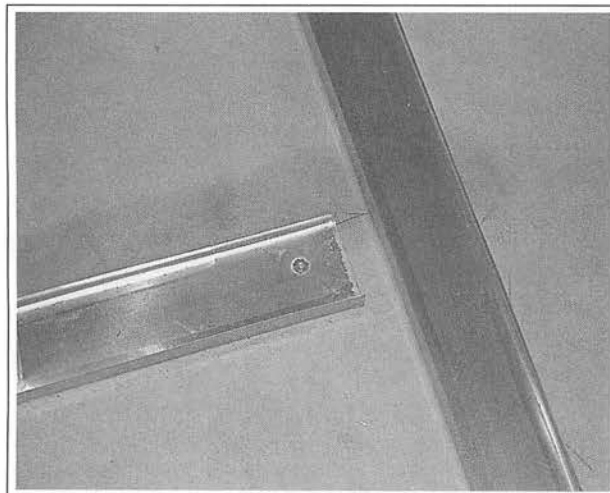

Figure 1-39. A 3/4-inch gap left open between the bottom plate of two intersecting walls, forming a double inside corner.
2. The *double inside corner*, formed by a partition wall tying into a long wall (such as a hallway), is shown properly plated in Figure 1-39.